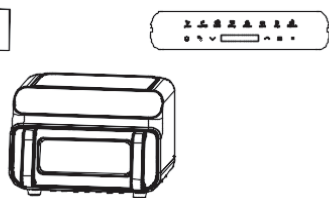

Figure 5
05. Select the menu corresponding to the food you desire to cook using the control panel or adjust the time and temperature according to your own needs (as shown in Figure 5).